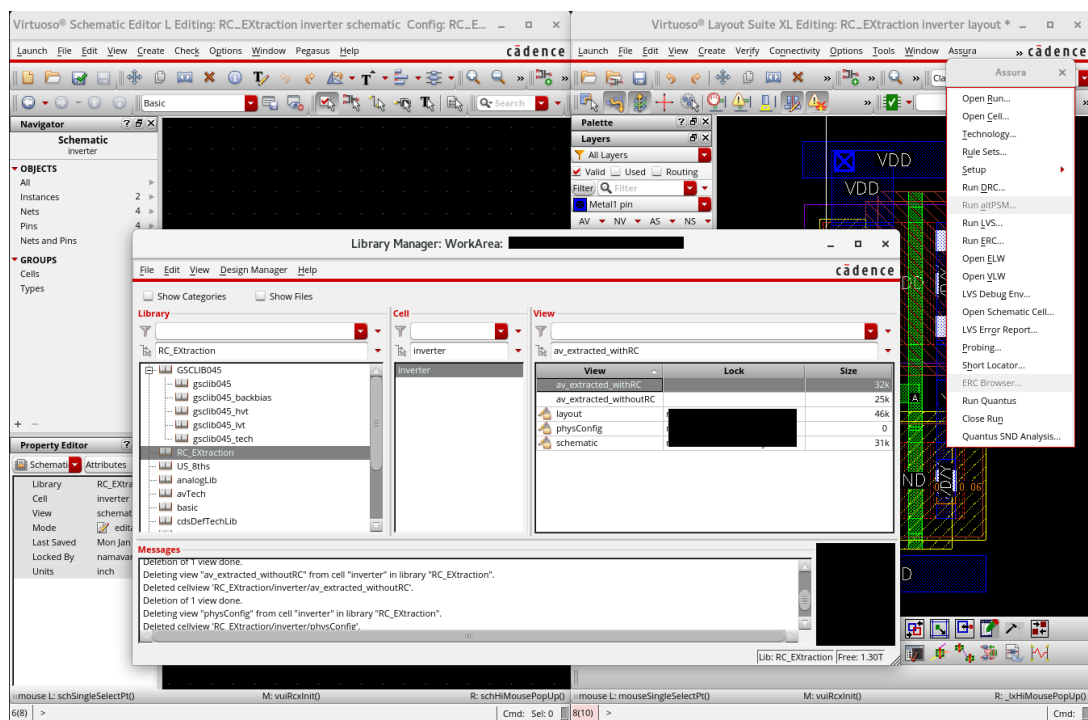

Figure 9: Library Manager showing the new extracted view for the inverter cell with RC parasitics. The view name matches the one specified in the Output field.
6. Once the extraction process is complete, verify the creation of the new extracted view in the **Library Manager**, as shown in Figure 9.